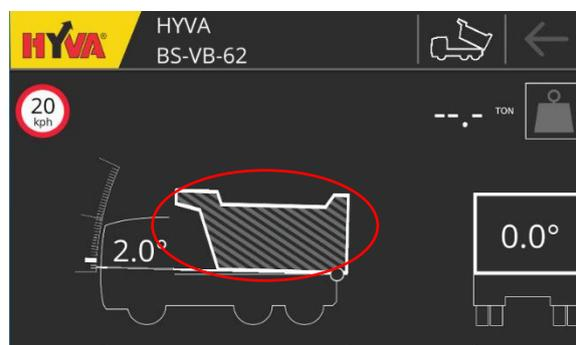

FIGURE 20 START OF TIPPING
- Vehicle angle is shown (0.5 degree in Figure 20)
- Side angle is shown (0.3 degree in Figure 20)
Once the body starts tipping, the dashboard shows the moving angle of the body Figure 20.